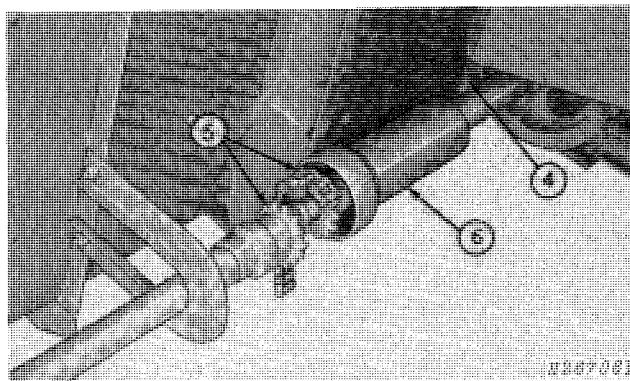

Fig. 79-Securing Platform
4. Secure platform to feeder house with two 5/8 x 1-1/2-inch cap screws, 21/32 x 2 x .250-inch washers and lock washers (Fig. 79).
5. Place roller chain around sprockets (both sides) (Fig. 79).
6. Slide coupler housing over sprockets and roller chain (both sides) (Fig. 79).
7. Raise hydraulic cylinder safety stop "B" and hook to chain "A." (Fig. 79).